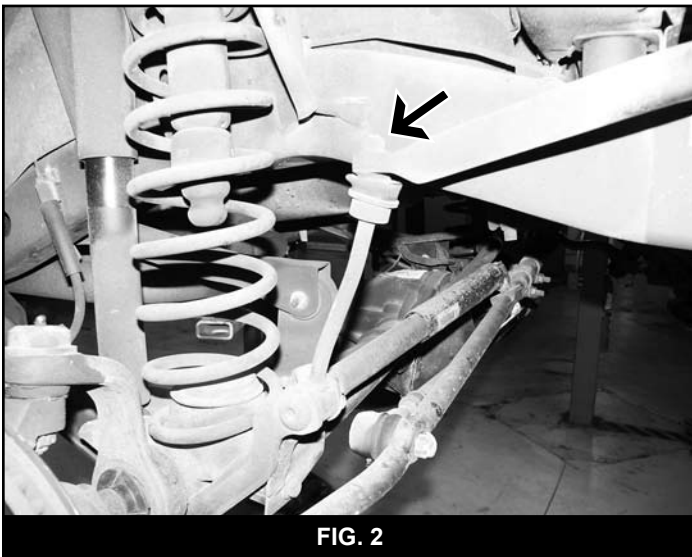

FIG. 2
9. Remove the upper mounting nut from the sway bar links (Fig 2). Disconnect the links from the sway bar using a pickle fork to release the tapered seat.